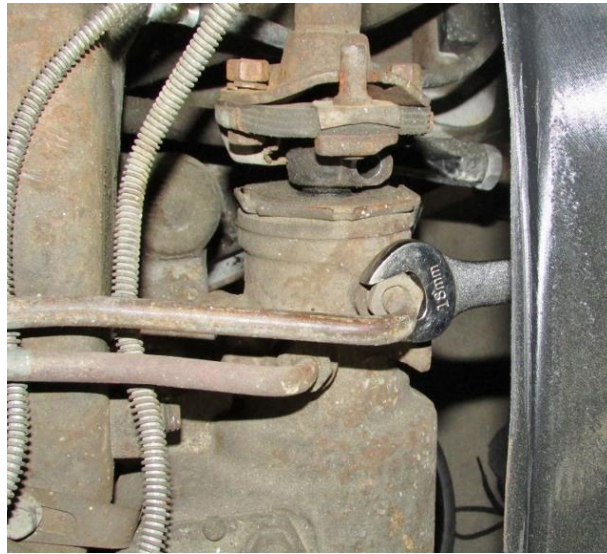

Figure 3 - Disconnect Power Steering Lines
4. Disconnect the power steering hoses from the steering gear if the truck is originally power steering equipped. Cap the open ports in the steering gear to prevent it from leaking (Figure 3 on the next page).